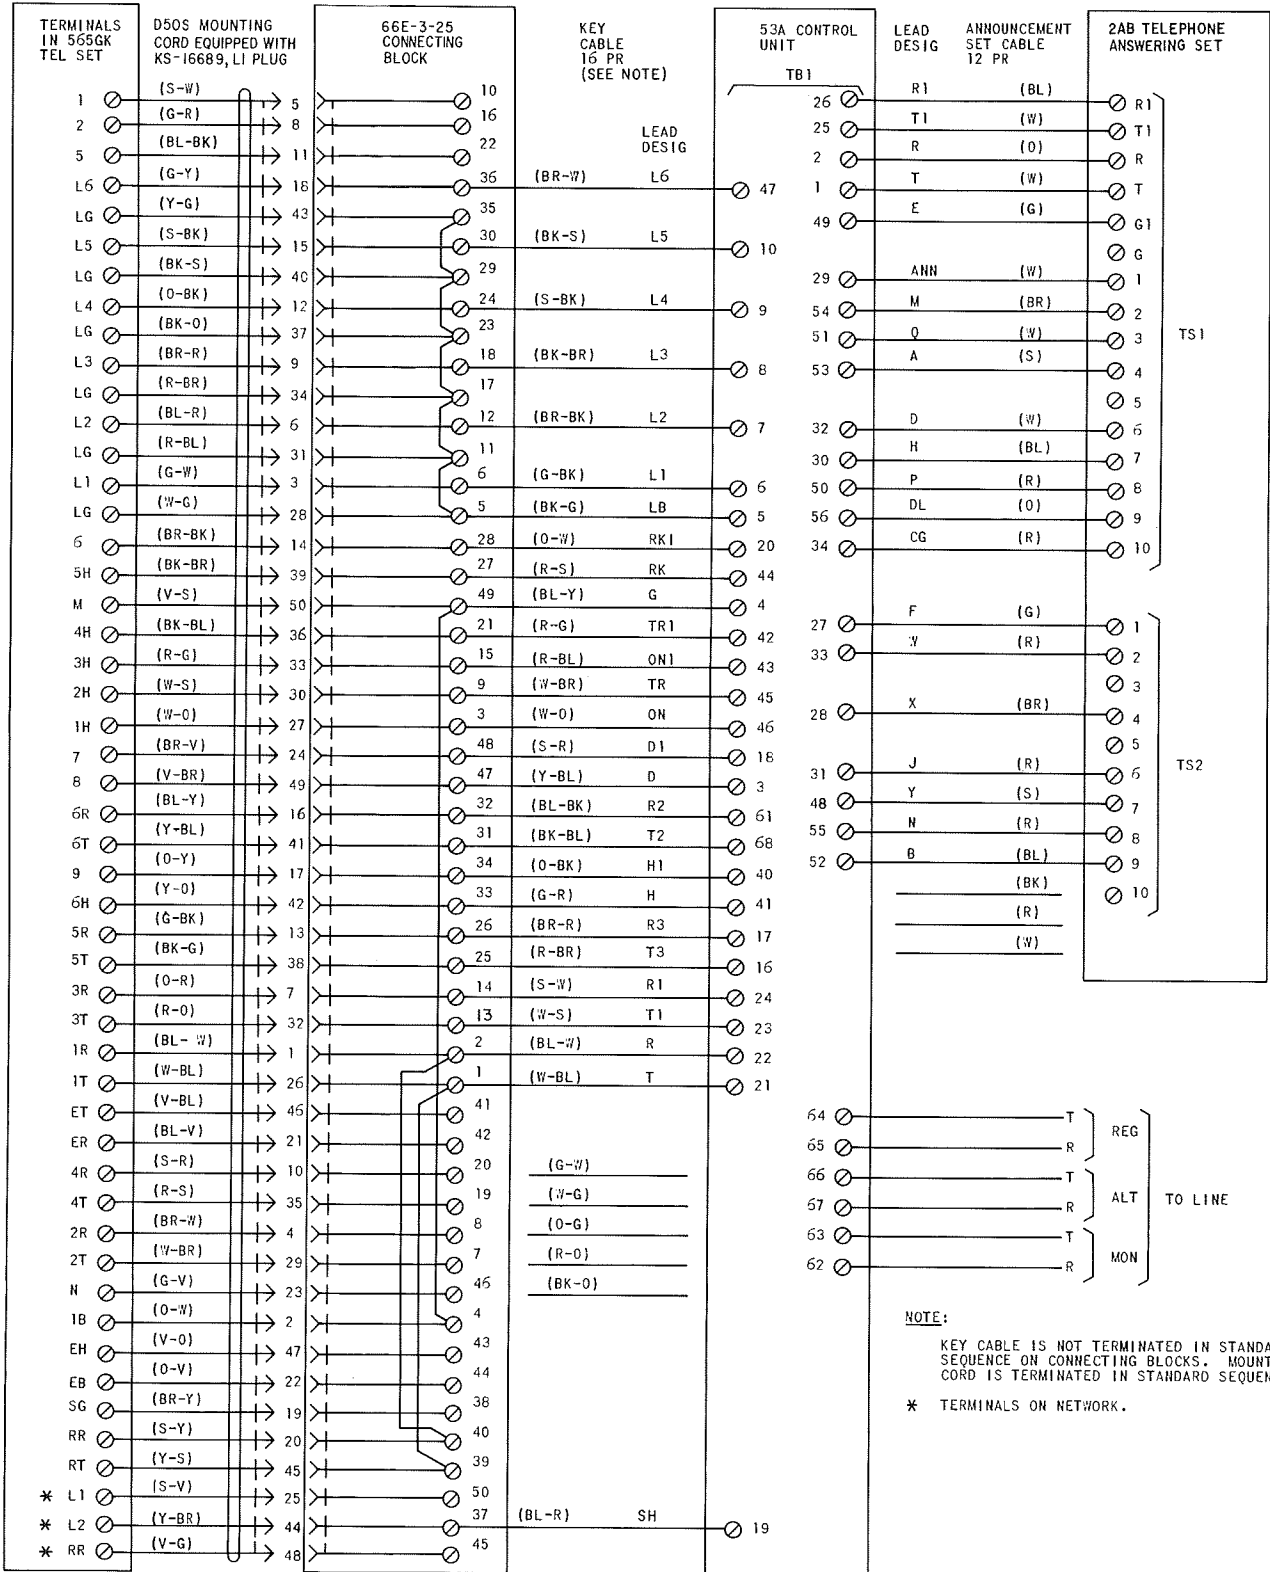
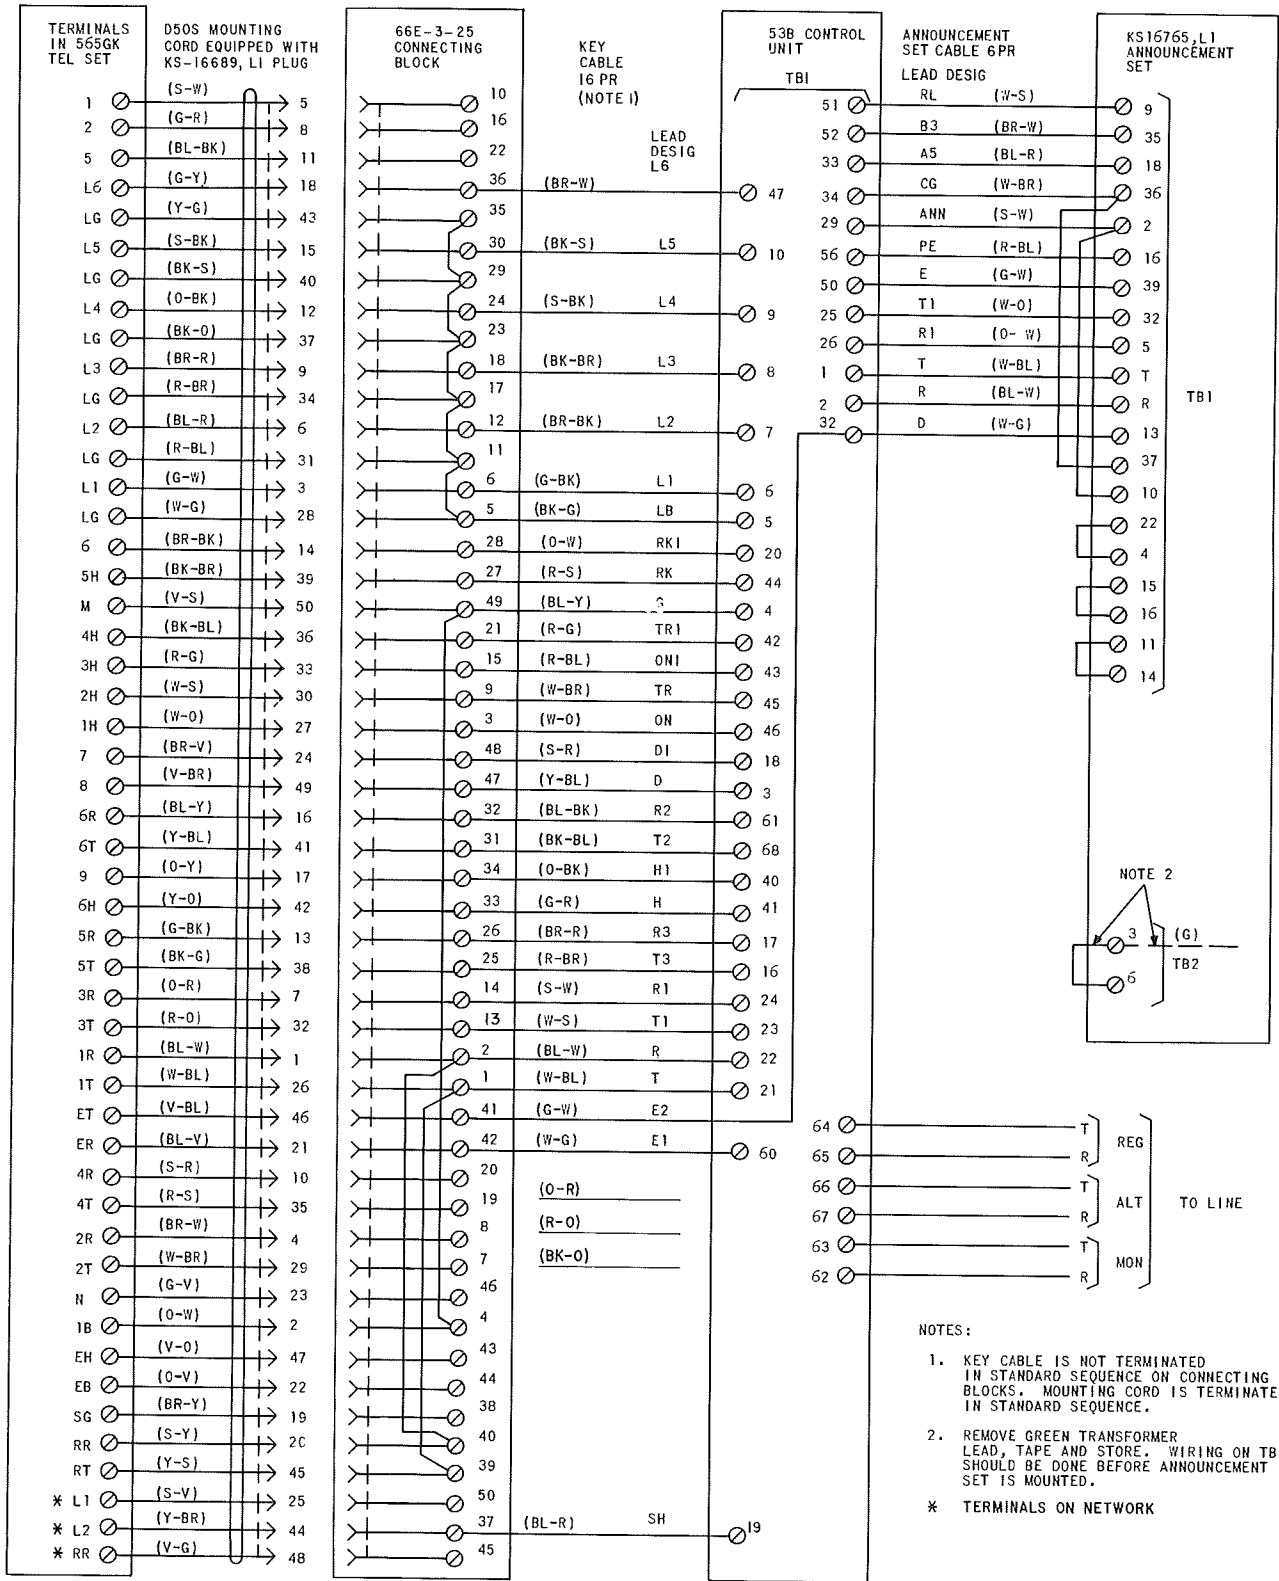

Fig. 6—Connection Diagram 565GK Telephone Set, 53A Control Unit and 2AB Telephone Answering Set
Fig. 8—Connection Diagram 565GK Telephone Set, 53B Control Unit and KS-16765, List 1 Announcement Set
**3.04** A 53A control unit used with a 2AB telephone answering set is connected as shown in Fig. 6. A 53A control unit used with a KS-16765, List 1 announcement set is connected as shown in Fig. 7. A 53B control unit used with a KS-16765, List 1 announcement set is connected as shown in Fig. 8.